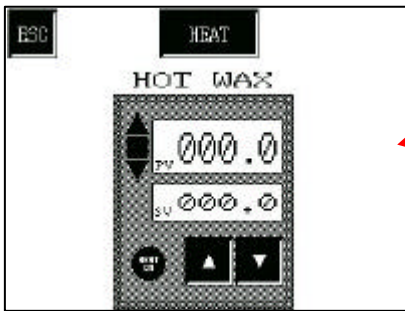
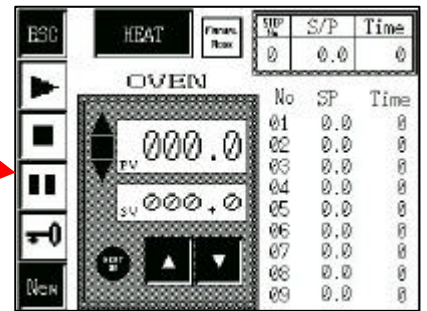
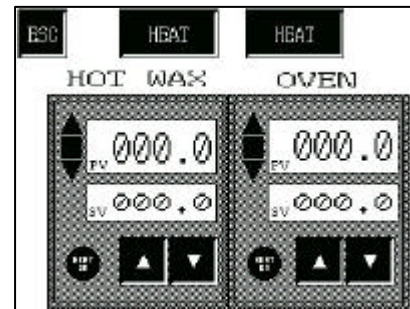

Fig. 45
Fig. 47
Fig. 48
The screen displayed having pressed the TEMP button on the Menu screen will depend on the options included in your machine. If only the Heated Cup option is fitted, then the screen shown in Fig.45 will be displayed, if the Heated Oven option is fitted then the screen in Fig.47 will be displayed, if however, both options are fitted then the screen shown in Fig.48 will be displayed.
The screen shown in Fig.45 displays the control for the Hot Wax (Heated Cup) temperature. The current temperature of the cup is displayed in the upper window (PV) in centigrade and the lower window displays the set value (SV) also in centigrade.